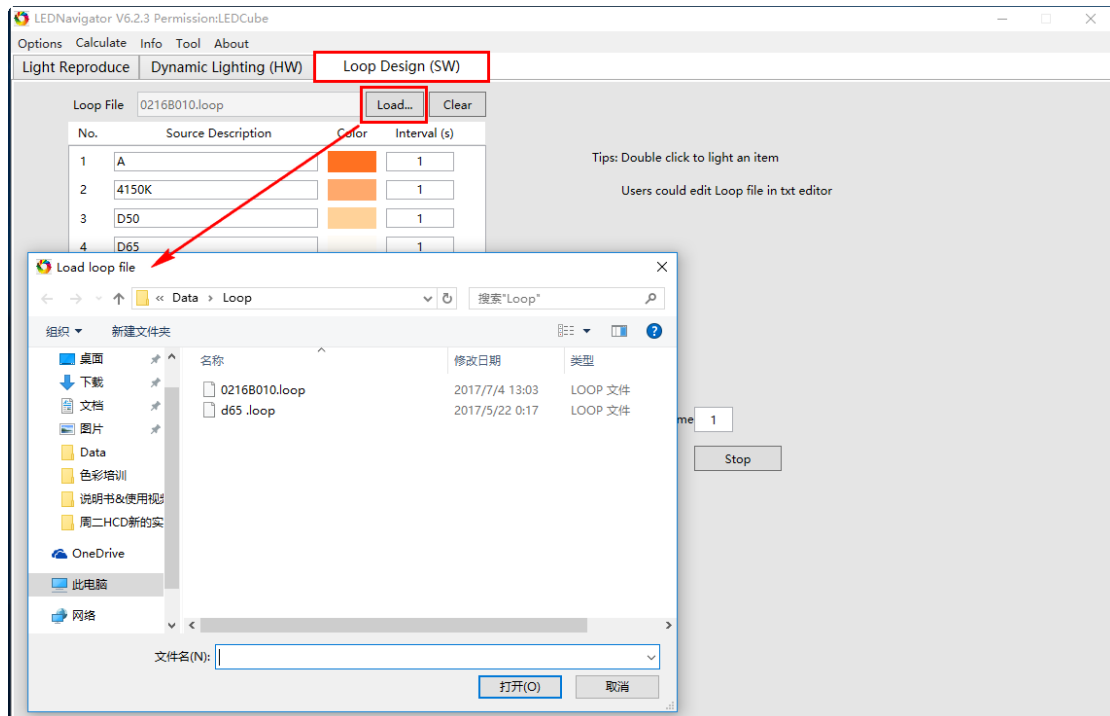

Fig. 4.25 Load in a history loop file
4.10 Loop Design (SW)
The saved light sources via *Save to SW...* in section 4.7 is shown in the *Loop Design (SW)* page. In the *Loop Design (SW)*, users could save unlimited light sources into software. Press *Load...* button to open a history Loop file, as shown in Fig. 4.25. Press *Clear* to clear previously loaded loop file.